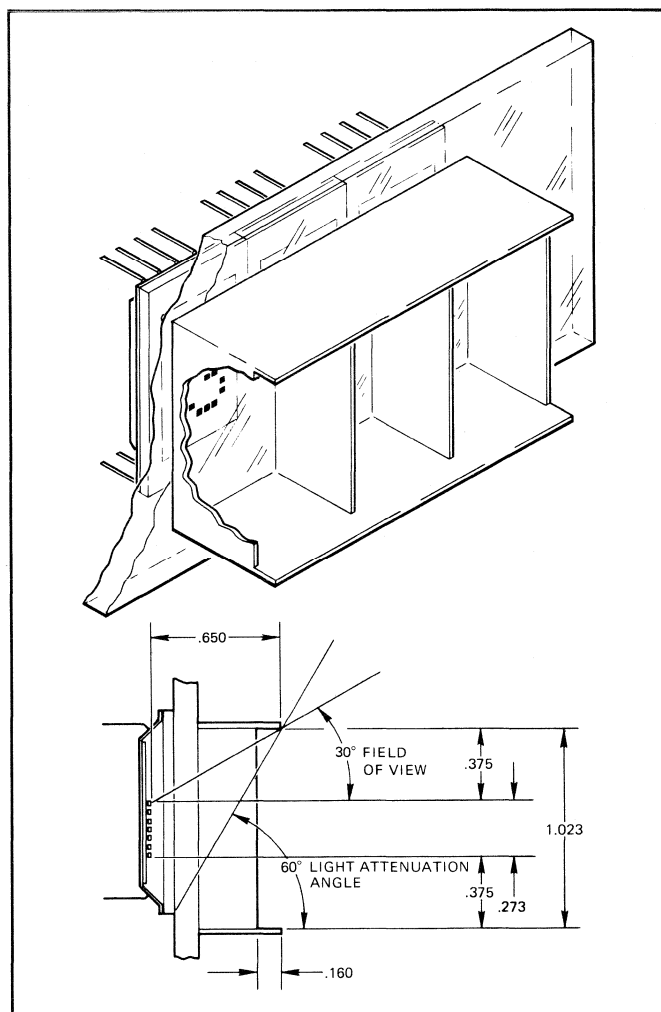

Figure 9.
For Condition (2), it is frequently desirable to artificially constrain the radiation pattern to take advantage of the light emission optimization and to use the pilot's head as a block to panel illumination from ambient lighting conditions. Figure 9 illustrates a method by which this may be adapted. There always exists the possibility of obtaining increased apparent character size and/or light emittance by optical enhancement techniques at the cost of viewing angle.